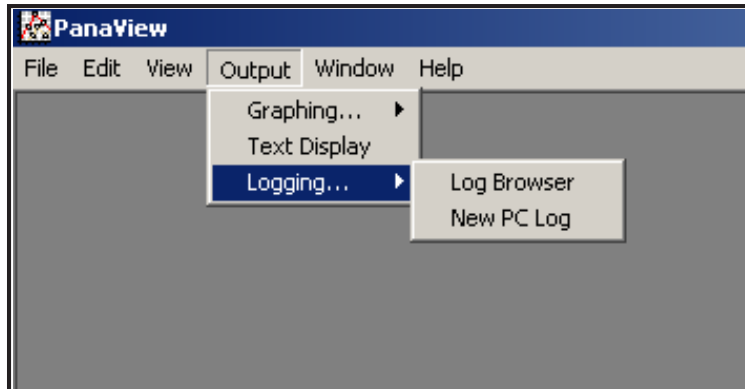

Figure 24: Log Browser in the Logging Option
1. From PanaView, click on the *Logging* option in the *Output* menu. Then click on the *Log Browser* option, as shown in *Figure 24* below.